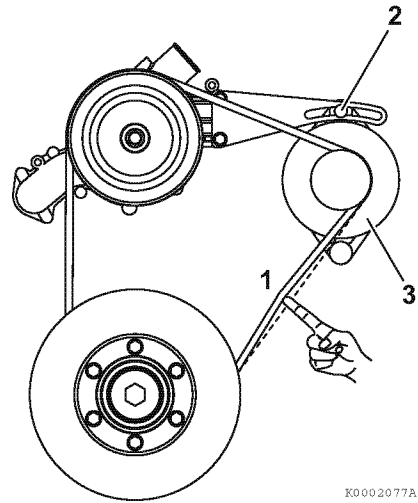

Figure 6
1. Check the tension of the V-belt by pressing on the middle of the belt (1, **Figure 6**) with your finger approximately 98 N, 10 kgf (22 lbf). With proper tension, the V-belt should deflect 8 - 10 mm (approximately 3/8 in.).
2. If the V-belt deflection is out of the limit, adjust the V-belt tension. Loosen the adjuster bolt (2, **Figure 6**) and move the alternator (3, **Figure 6**) to adjust the V-belt tension.
3. If the V-belt is damaged or worn, replace it. Loosen the adjuster bolt (2, **Figure 6**) and move the alternator (3, **Figure 6**). Remove belt from pulleys.
4. Install new belt per routing (**Figure 6**) and adjust the tension as shown in Step 2.